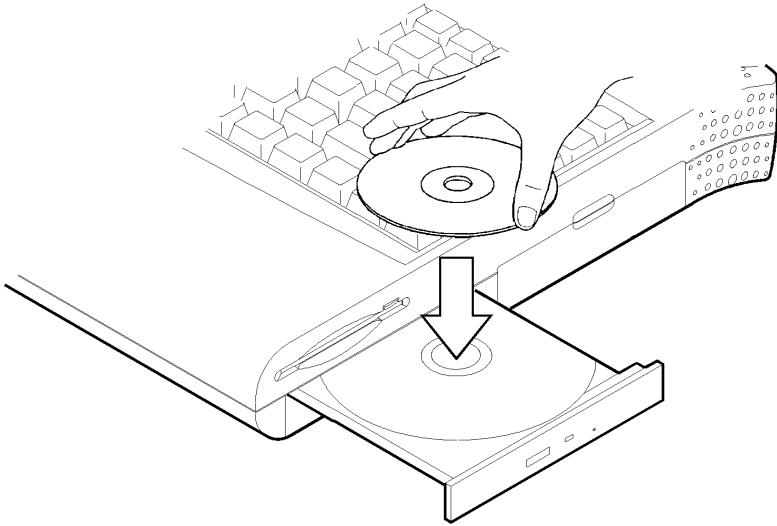

Figure 2-15
- Carefully load the CD on the disc tray with label-side facing up. Press it gently to ensure it fits into place (Figure 2-15).